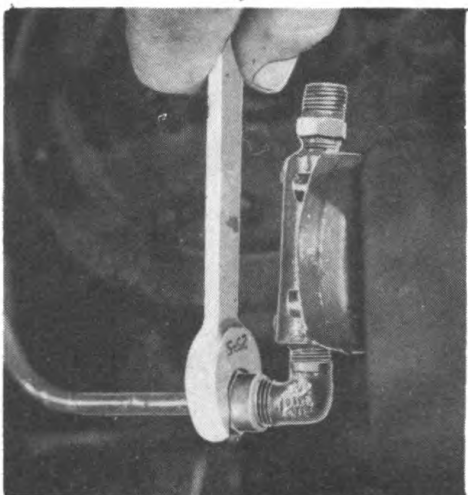

Fig 62. Breaking gasoline discharge line at thermostatic fuel valve inlet.
- e. Break gasoline discharge line at thermostatic fuel valve inlet as shown in figure 62.